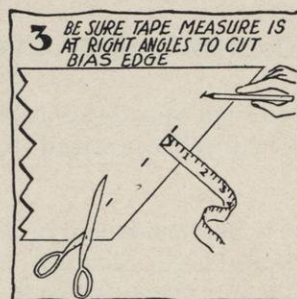

FIG. 3.
- c. Measure 1 inch through the bias (see Figure 3) and mark it with a pencil. *Through the bias* means that the tape measure should be at right angles to the cut edge of the bias.
- d. Cut the 1-inch bias strip off, along the pencil marks (see Figure 3).